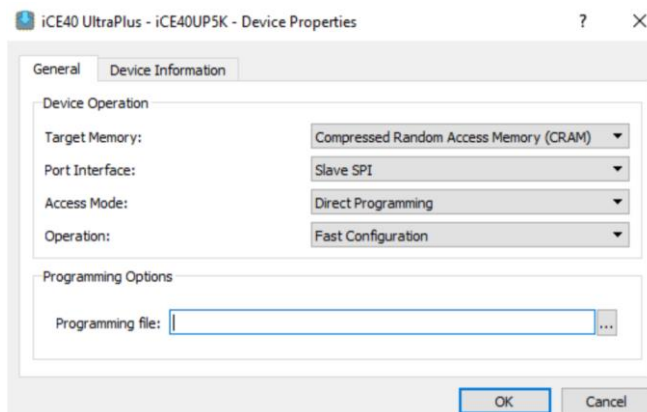

Figure 8.5. Lattice Radiant Programmer: Device Properties for iCE40 Device Configuration Memory
6. In the **Device Properties** dialog box, apply the settings below. See Figure 8.5.